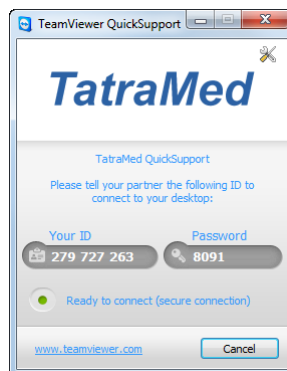

Figure 394 – TeamViewer QuickSupport with your ID and password
- Be prepared to provide your ID and password, which are displayed in the TeamViewer QuickSupport application (see Figure 394), and call the Tatramed customer support center (see 26 Contact).